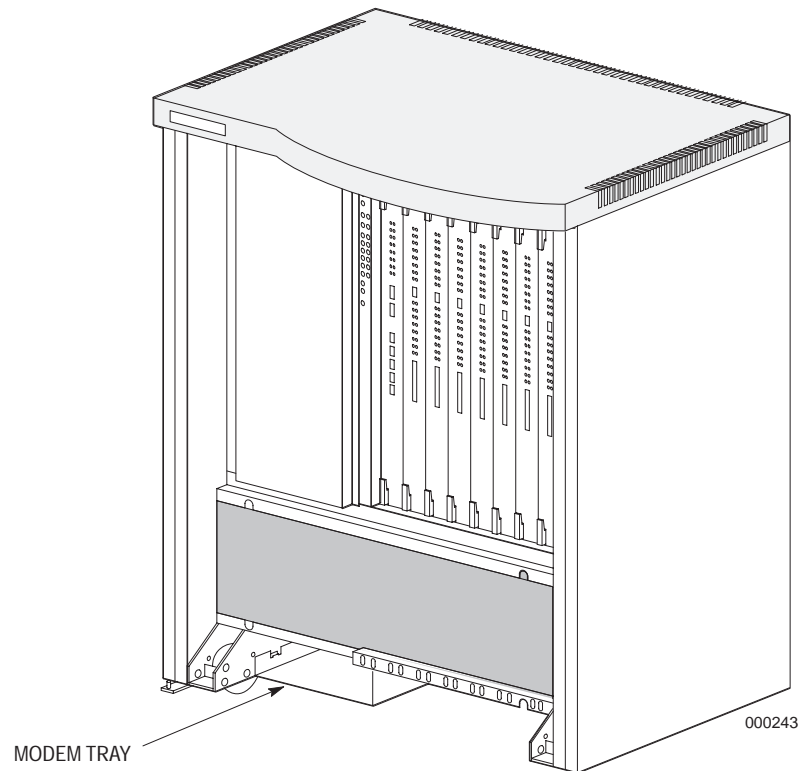

Figure 4-10. Modem Tray Location.
1. Insert the modem into the modem tray on the bottom left side of the server, as shown in Figure 4-10.